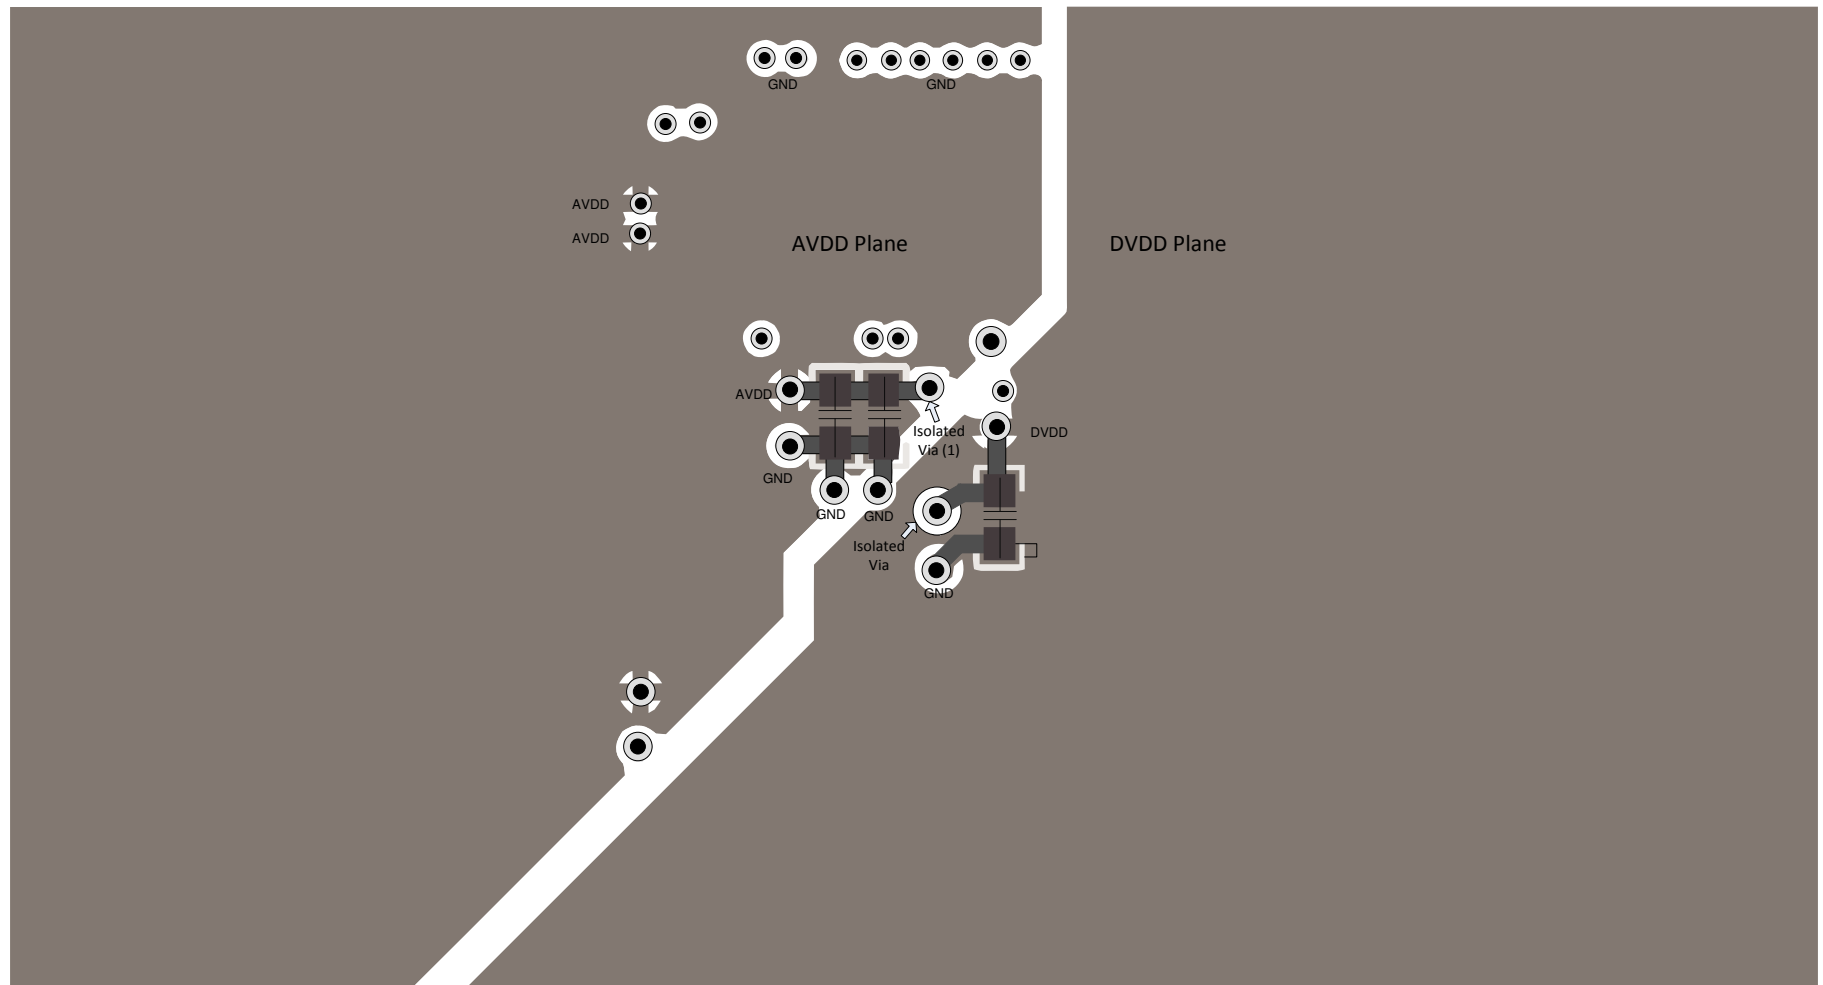

Figure 8-7. Bottom Layer Layout
Figure 8-6 and Figure 8-7 illustrate a PCB layout example for the ADS8588H.
- Power sources to the ADS8588H must be clean and well-bypassed. As a result of dynamic currents during conversion, each AVDD must have a decoupling capacitor to keep the supply voltage stable. Use wide traces or a dedicated analog supply plane to minimize trace inductance and reduce glitches. Using a 1- μ F, X7R-grade, 0603-size ceramic capacitor is recommended in close proximity to each analog (AVDD) supply pins. Bypass capacitors for AVDD pins 1 and 48 are located on the top layer; see Figure 8-6. AVDD supply pins 37 and 38 are connected to bypass capacitors in the bottom layer using an isolated via (1); see Figure 8-7. A separate via (2) is used to connect the bypass capacitor to the AVDD plane.
- For decoupling the digital (DVDD) supply pin, a 1- μ F, X7R-grade, 0603-size ceramic capacitor is recommended. The DVDD bypass capacitor is located in the bottom layer; see Figure 8-7.
Figure 8-6 and Figure 8-7 illustrate a recommended layout for the ADS8588H along with proper decoupling and reference capacitor placement and connections.